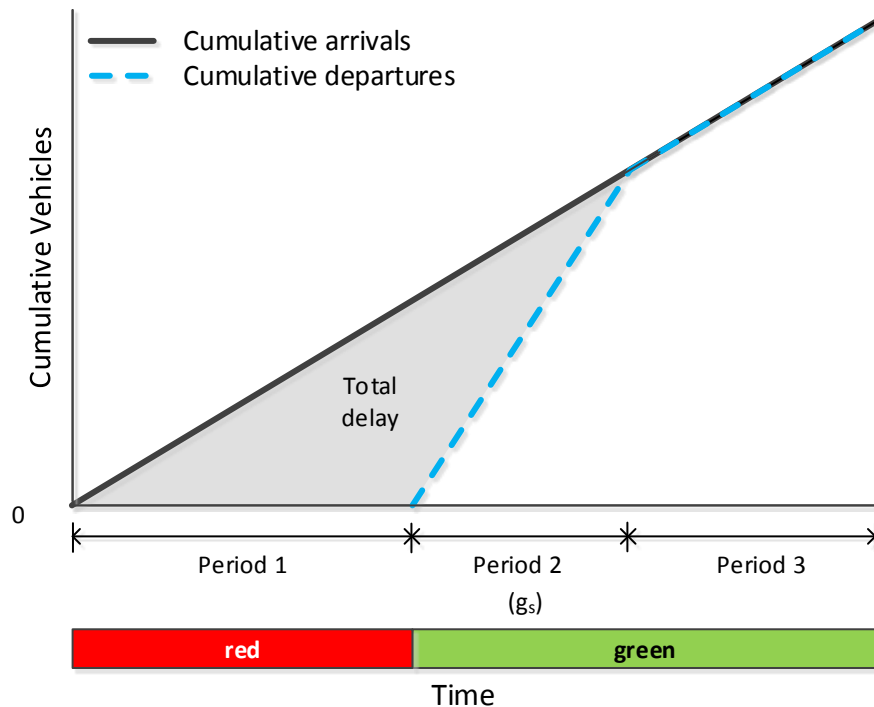

Figure 9. Cumulative vehicle diagram showing total delay
- The third measure is the *total delay* experienced by all vehicles that arrive at and travel through the intersection. If we add all of the horizontal lines described in the bullet above for all vehicles, we get the total delay experienced by all vehicles. The total delay is the area of the triangle formed by the arrival and departure lines and shown as the shaded area in Figure 9.